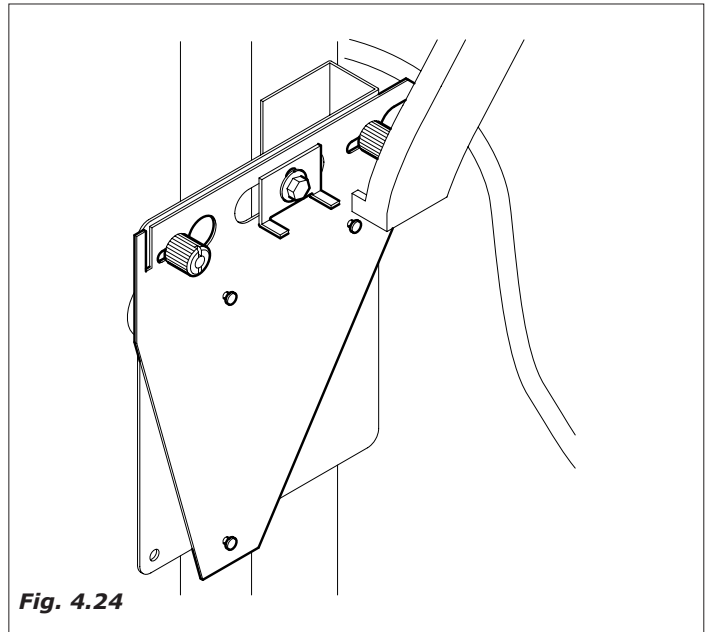

Fig. 4.24
- remove the support bracket from the machine (Fig. 4.24)